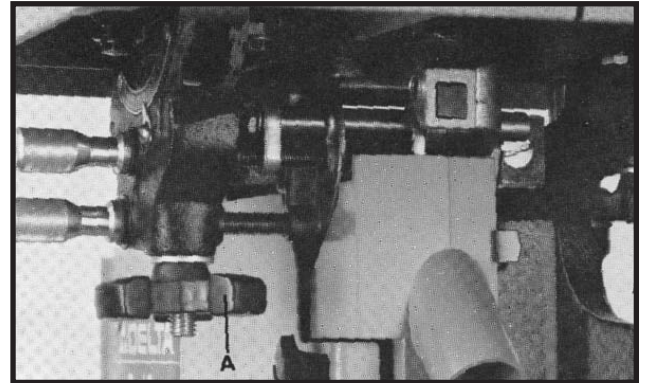

Fig. 15
The table on your band saw can be tilted 45 degrees to the right and 10 degrees to the left. To tilt the table, loosen the two lock knobs (A) Fig. 15, tilt the table to the desired angle and tighten the two lock knobs (A).